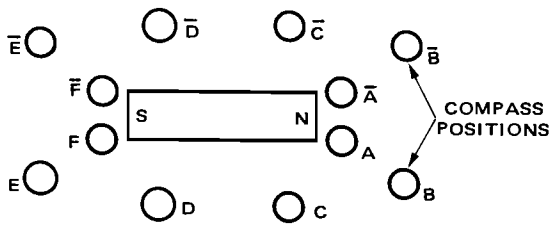

Fig. 6-1-2
8. Place bar magnet on a sheet of paper on bench top, as indicated in Fig. 6-1-2.